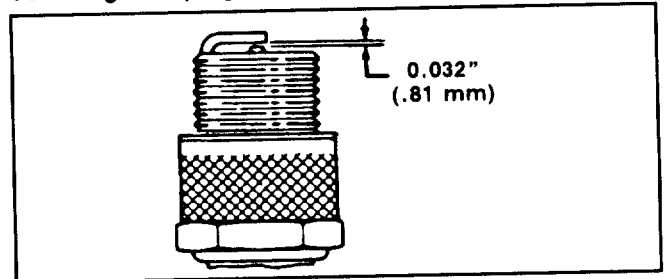

Figure 10
3. Set air gap at 0.032" (0.81 mm) (Fig. 10). Install correctly gapped spark plug and gasket seal. Tighten plug firmly to 15 ft-lb (20 N-m).